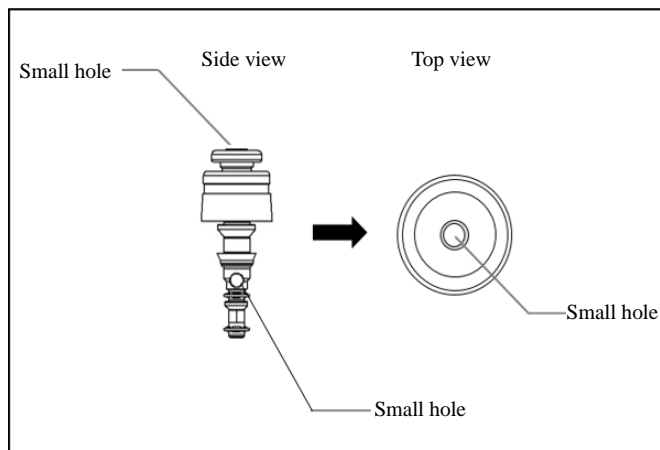

Figure 3.19
1. Confirm that the small hole on the button is not blocked (as shown in Figures 3.19 and 3.20).
2. Confirm that the button is not deformed or cracked (as shown in Figures 3.19 and 3.20).
3. Check whether the sealing gasket of the Air/Water Delivery button has excessive scratches or cracks (as shown in Figure 3.19).